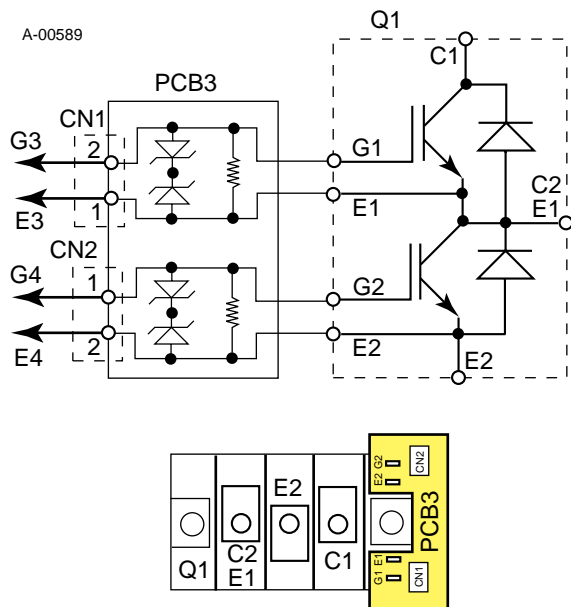

Figure 4-4 Testing IGBT Module (Q1) Assembly
3. The IGBT module contains two diode sections. One diode is across C2E1 (anode) to C1 (cathode) and one is across E2 (anode) to C2E1 (cathode). Test each diode section in the forward (anode to cathode) and reverse (cathode to anode) direction (refer to Figure 4-4). A properly functioning diode conducts in the forward direction (meter indicates 0.3 to 0.9 volts) and blocks in the reverse direction (meter indicates an open).